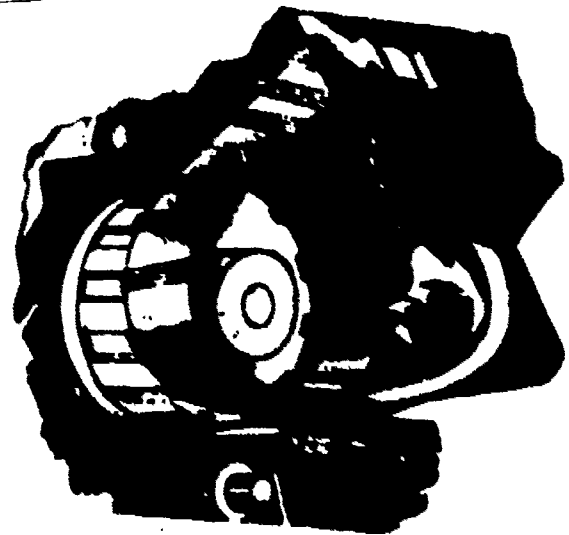

Figure 31. Removal of Arm Shaft Connection Belt from Lower Pulley.
4. If arrows are not in line, remove connection belt from lower pulley, figure 31.